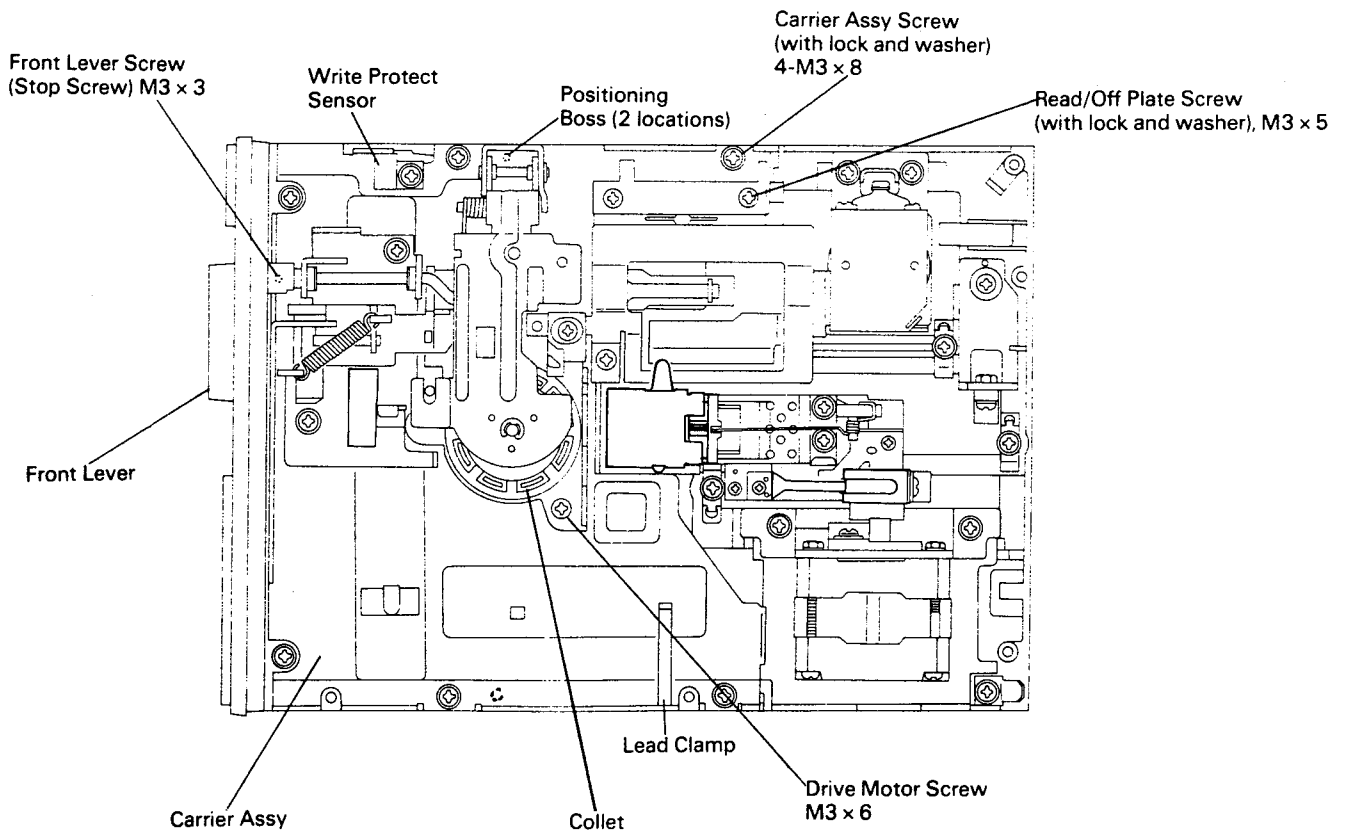

Fig. 4.7.1
5. Remove the carrier assembly screws and remove the carrier assembly by pushing towards the rear of the drive. (See Fig. 4.7.1.)